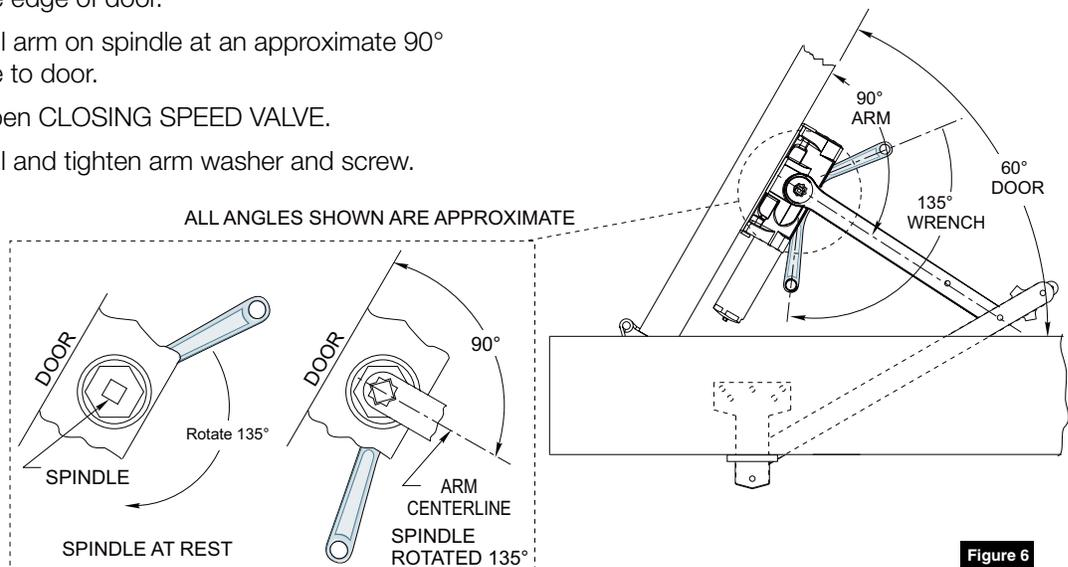

Figure 6
5. Connect Arm To Closer. (Figure 6)